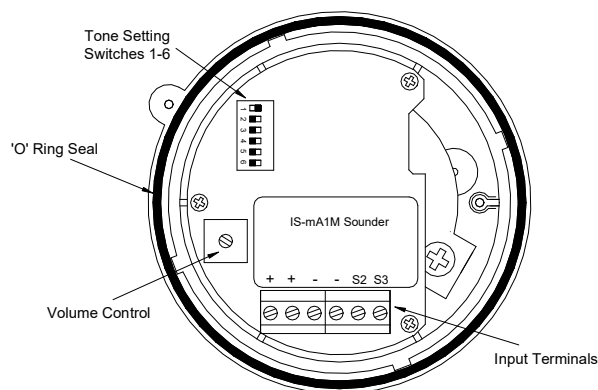

Fig 2 Location of field terminals and controls.
Tone Selection – To select the required first stage tone set the tone switches 1 to 6 (see Fig 2) to the tone setting shown in the table below. The table also shows which 2nd and 3rd stage tones are available for use with the selected first stage tone if more than one tone output stage is required.
- Fit the required number of 20mm cable glands or conduit entries into the base and connect the field wiring to the appropriate sounder terminals as shown in section 6 and fig 2 of this manual. The power supply terminals + and - are duplicated so that sounders may be connected in parallel, or an end of line monitoring resistor may be fitted.
- Select the required output tone by positioning the six switches as shown in Table 1 and Fig 2.
- Check that the 'O' ring seal is correctly located on the sounder section (see Fig. 2) and insert the sounder section into the base. Push it fully home and turn it clockwise to align the mouldings before tightening the security screw.
The output level of the IS-mA1M sounder can be set by adjusting the volume control potentiometer (see Fig 2).